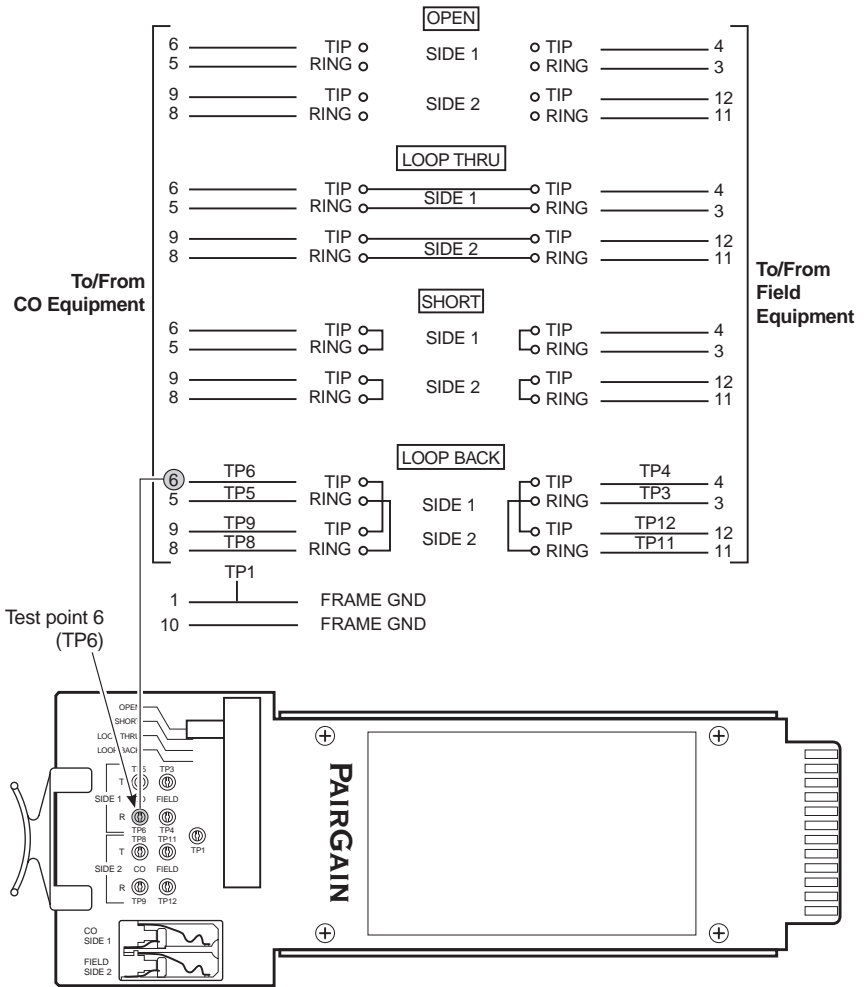

Figure 2. HTC-439 List 1 Test Connections
- 2 Connect to test points as applicable. The connections of Tip and Ring pairs of CO and field circuits for each setting of the switch are listed in Table 1 on page 4 and illustrated in Figure 2 on page 5. (Pin numbers correspond to the edge connector pins for each circuit.)